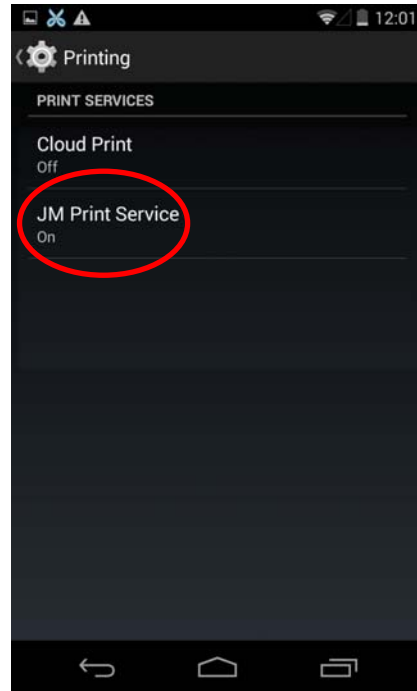

Figure 22
3.3 Find out "JM Print Service" in "Printing" interface and enter into, as shown in Figure 22.